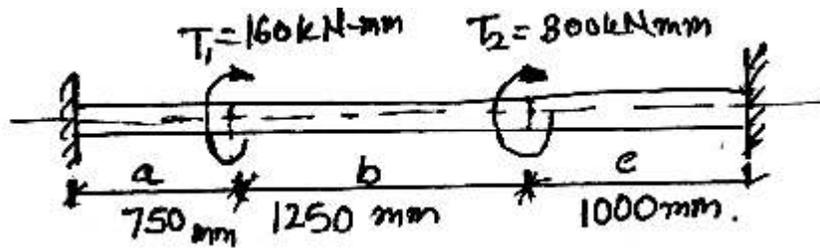

Fig. 10
8. (a) A uniform shaft of diameter 'd' is fixed at the ends and is subjected to twisting couples  $T_1 = 160 \text{ kNm}$  and  $T_2 = 300 \text{ kNm}$  as shown in Fig. 10. Find the torque  $T_a$ ,  $T_b$  and  $T_c$  in the three portions of shaft. [9]